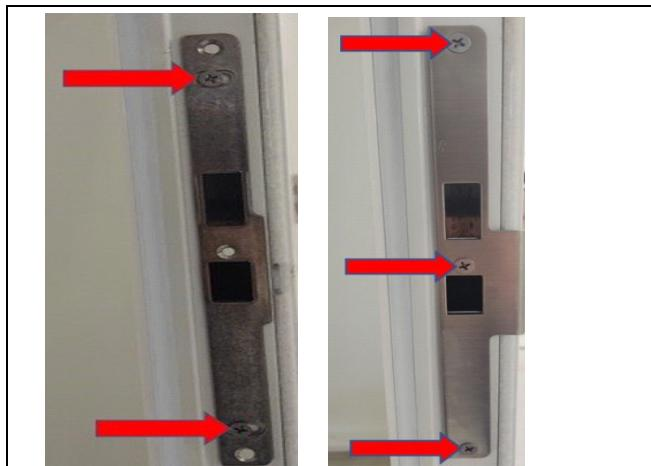

Figure 4
5. Remove the two screws holding the strike plate spacer to the inactive panel astragal or frame jamb. (Red arrows, Figure 4). Align the strike plate over the strike plate spacer and attach these two items together to the inactive panel astragal or frame jamb, using three self-drilling screws #10 x 3/4" the holes drilled in the Step 4.
NOTE: The two screws holding strike plate spacer, if not removed, the strike plate will deform and cause possible interference. See Figure 4.